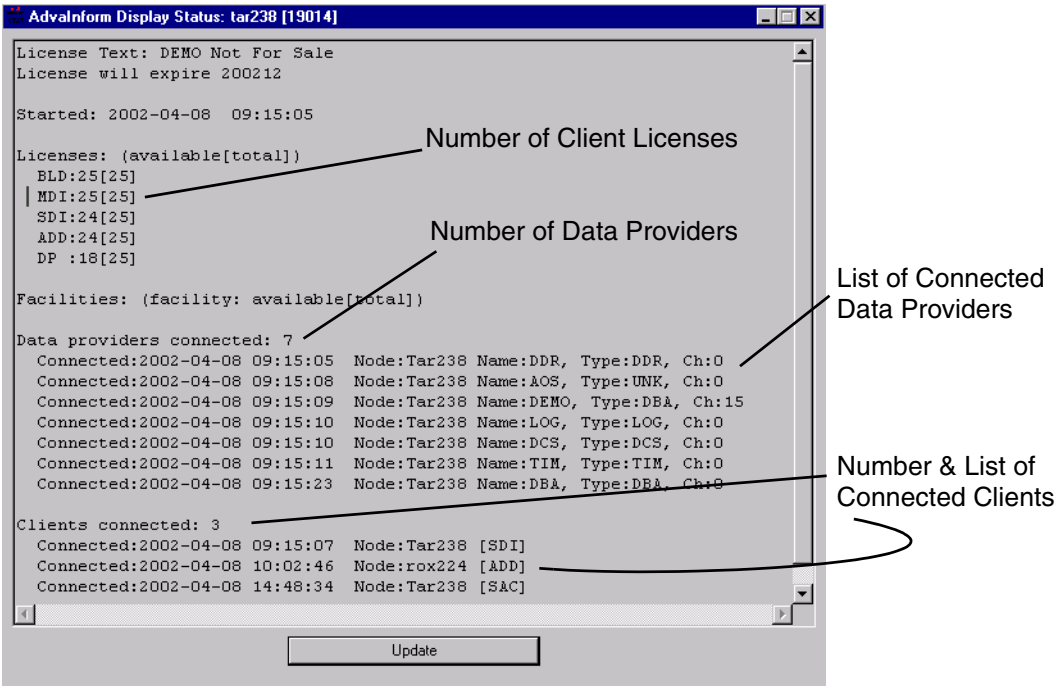

Figure 411. Display Server:COMM Window
3. Click **OK**. This displays the server status window, Figure 411.